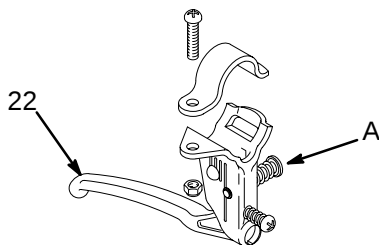

Fig. 17 0018
1. For a free moving caster: Squeeze and hold the caster lever (22).
2. To lock the caster in the free moving position, squeeze the trigger, push in and hold the button (A) and release the trigger. See Fig. 17.